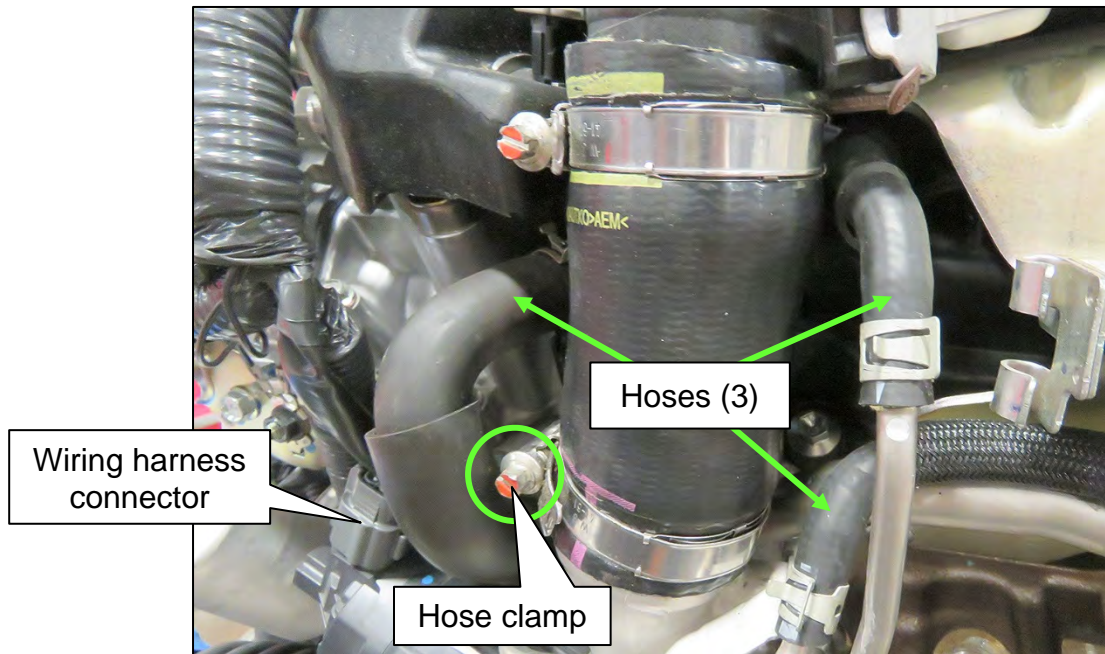

Figure 81
130. Reconnect the wiring harness connector shown in Figure 81.
131. Reconnect the three (3) hoses shown in Figure 81.